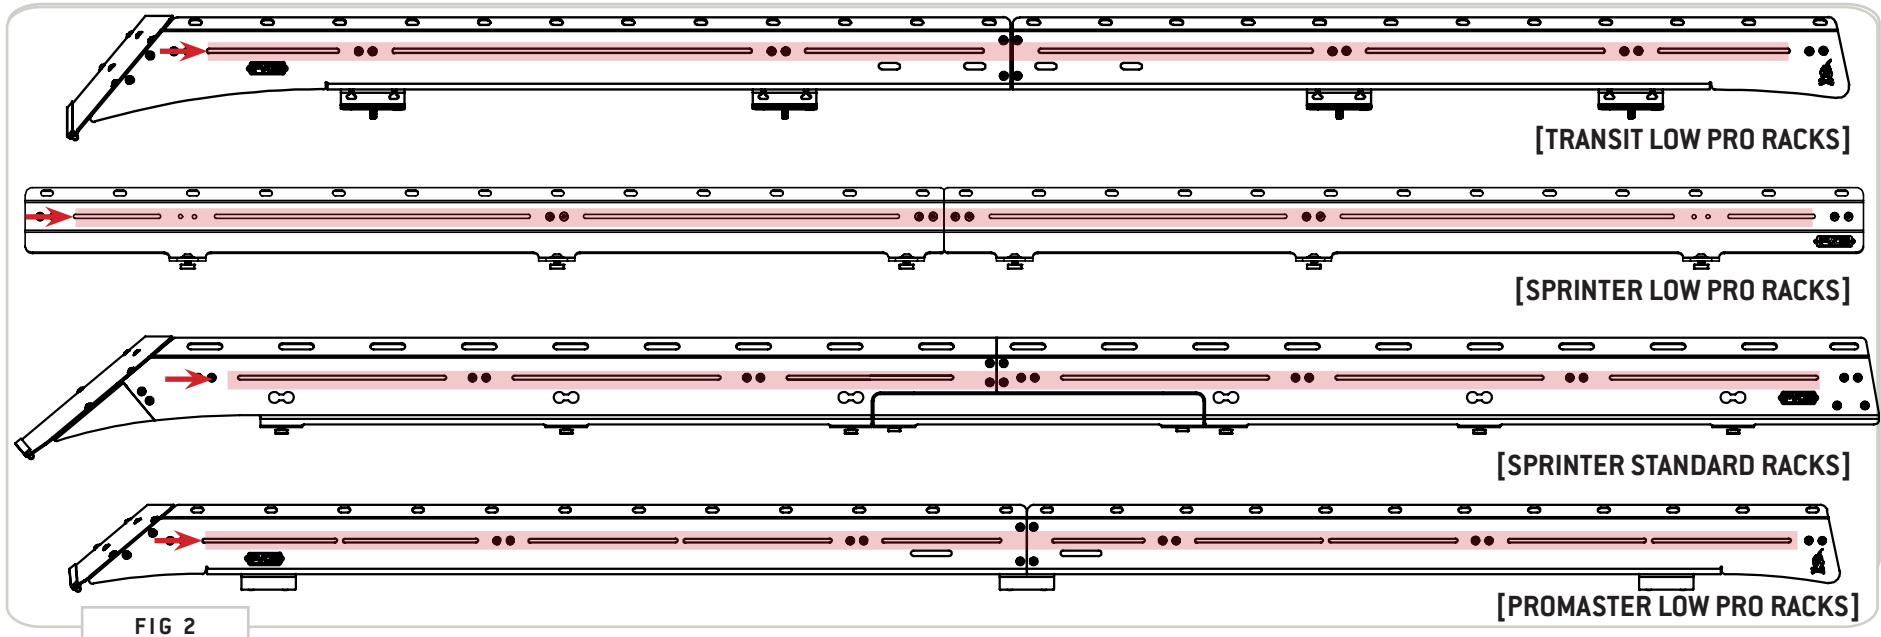

FIG 2
1.1 Layout Install Location: Keep in mind the layout of your planned or existing roof top array (solar panels, fans, tents, etc.) and choose an install location suitable to your needs. FIG 2 depicts examples of available mounting slots for your **High Bar Risers** to be attached to **FVC Roof Racks**.